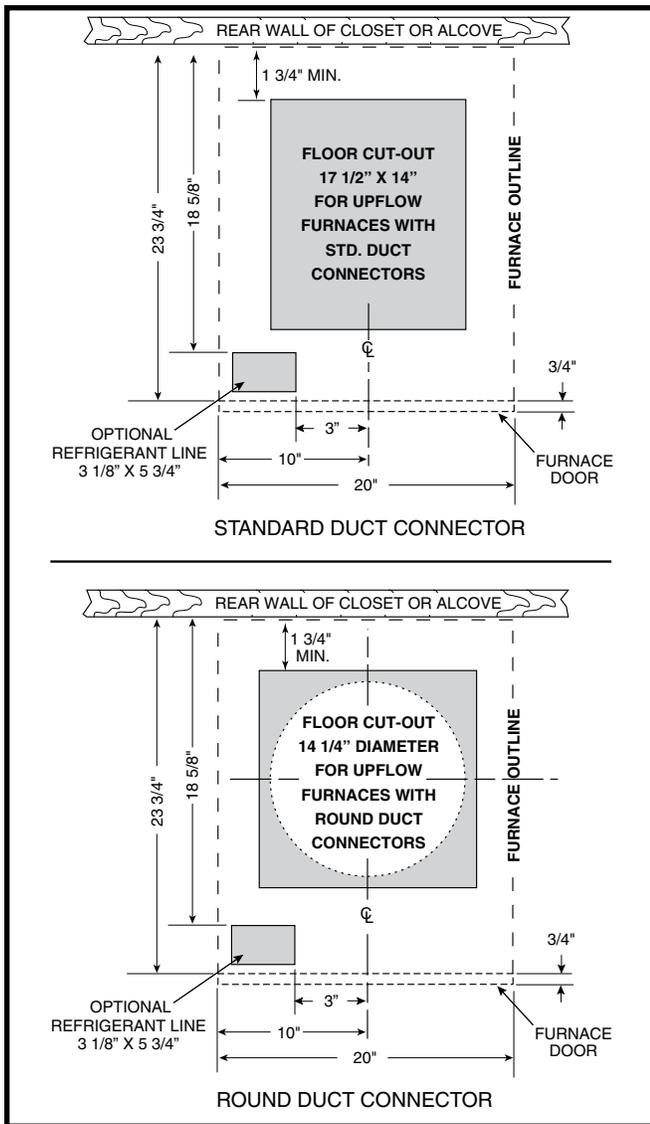
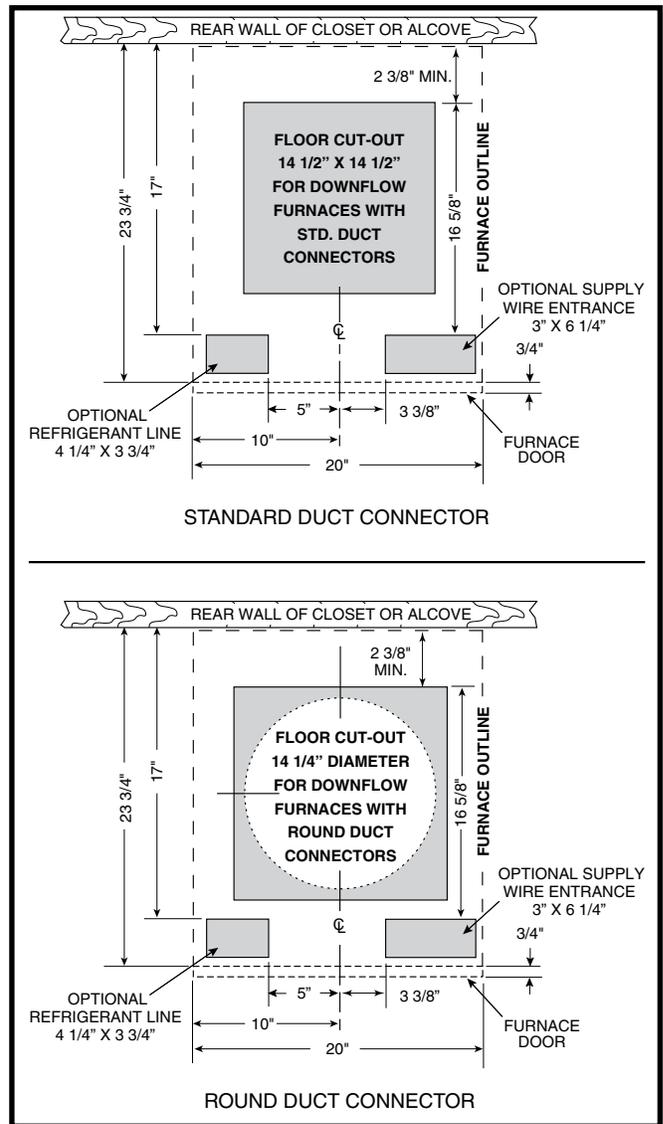

Figure 2. Cut-Out Dimensions for Upflow Furnaces
Figure 3. Cut-Out Dimensions for Downflow Furnaces
Floor cut-outs must be carefully located to avoid misalignment of the furnace and air duct. Standard and round cutouts for upflow furnaces are shown in Figure 2 \(page 6\). The cutouts for downflow furnaces are shown in Figure 3 \(page 6\).
2. Using the centerline as a starting point, draw the rest of the duct cut-out to the dimensions shown in Figure 2 or Figure 3.
- a. Mark floor openings as shown in Figure 2 \(page 6\). Provide minimum clearances at rear and left side walls of closet for installation of furnace and wiring.